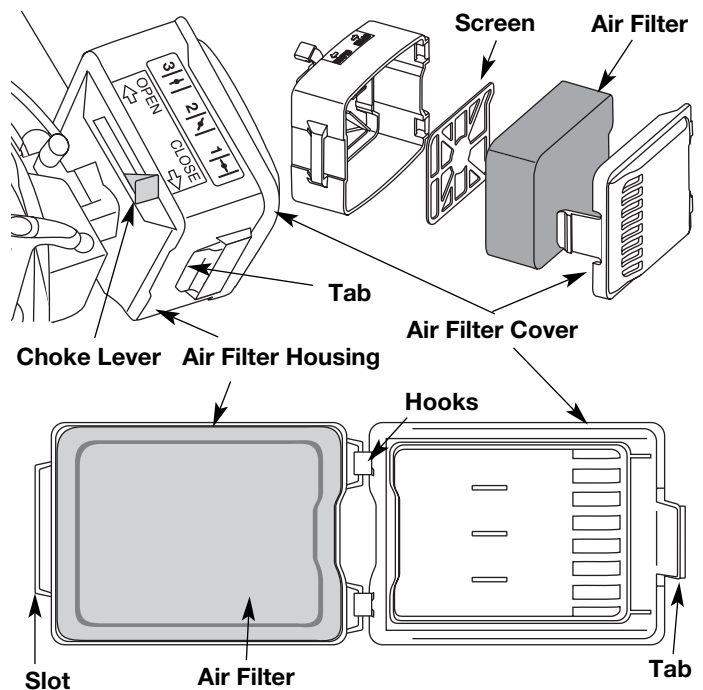

Fig. 22
1. Open the air filter cover. Push the tab on the left side of the cover in, swing the air filter cover out and off the air filter housing (Fig. 22).
2. Remove the air filter and the screen that sits behind it (Fig. 22).
6. Replace the filter (Fig. 22).
7. Reinstall the air filter cover. Position the tabs on the sides of the air filter cover onto the slots at the top of the back plate (Fig. 22).
8. Push the cover in until the tab on the air filter backplate snaps into place in the slot on the air filter cover (Fig. 22).